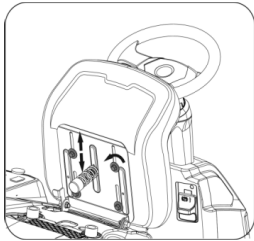

Figure 5
- 2. Loosen the four bolts to adjust the seat front and rear (Figure 5).